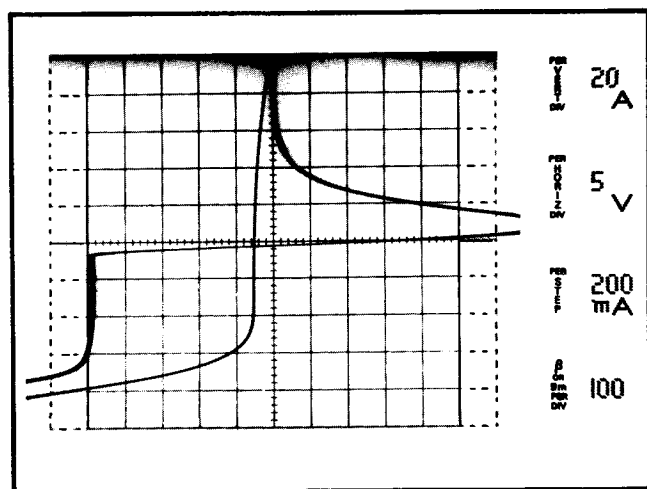

Fig. 5-7. Type 576 display of waveform for making adjustment of horizontal compensation.
- c. Position the display onto the CRT (see Fig. 5-7).
- d. CHECK FOR—Tail on the upper portion of the display parallel with the vertical graticule lines (see Fig. 5-7).